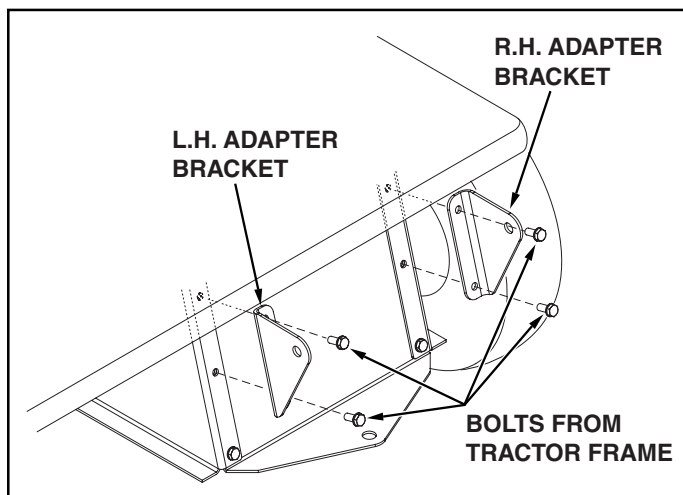

FIGURE 1
4. Remove top four bolts from rear of tractor frame. See figure 1.